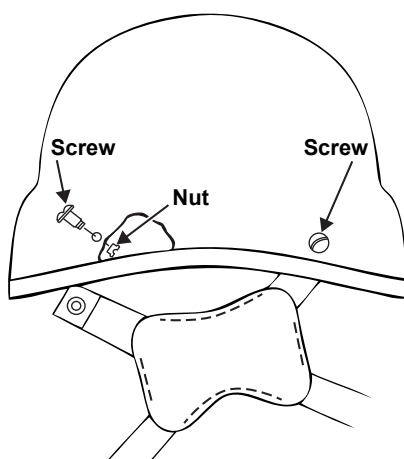

Figure 23. Rear Hardware
2. Referring to **Figure 23**, remove the two rear screws and nuts attaching the rear retention assembly straps to the helmet.
2. Referring to **Figure 23**, reattach the retention straps to the rear of the helmet with the two rear screws and nuts you removed previously.